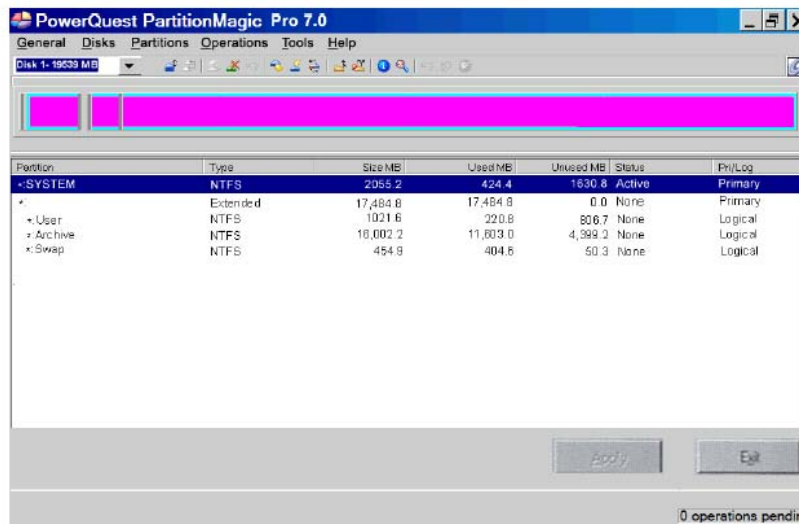

Figure 8-72 Partition Magic Screen
- 10) With the *System* partition selected (highlighted, as shown in Figure 8-72), delete the partition by selecting the **Delete** Tool under the *Operations* menu, as shown in Figure 8-73 below: